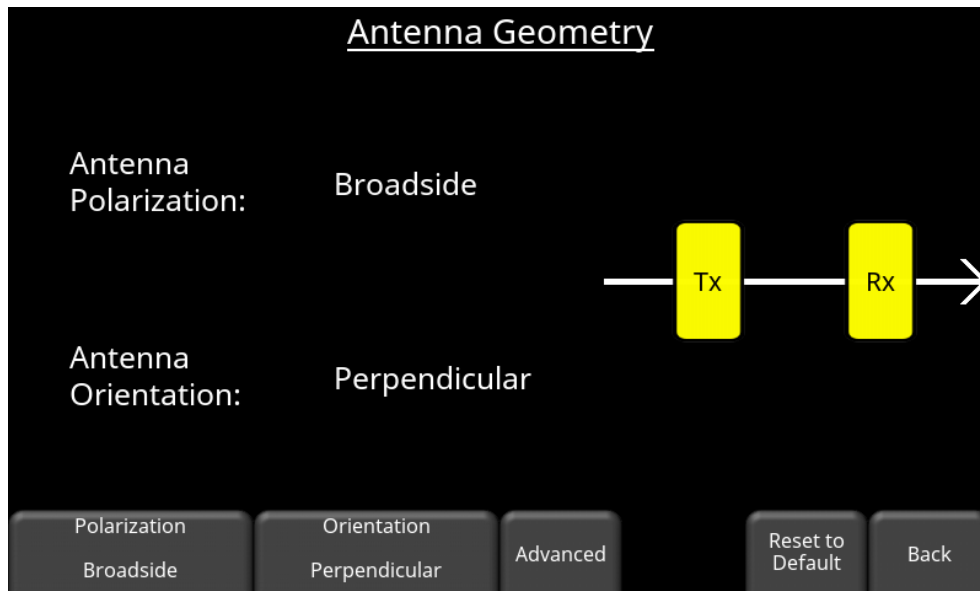

Figure 6-25: Antenna Geometry is Broadside Perpendicular
All the pulseEKKO antennas and transducers have the flexibility to allow different orientations with respect to each other. Press **Antenna Polarization** to display the screen in Figure 6-25 where the user can set the Antenna Geometry.
- **Broadside** is the typical configuration that most people use for reflection surveys. This provides the best coupling between antennas and reduces reflections from targets off to the side (Figure 6-25).